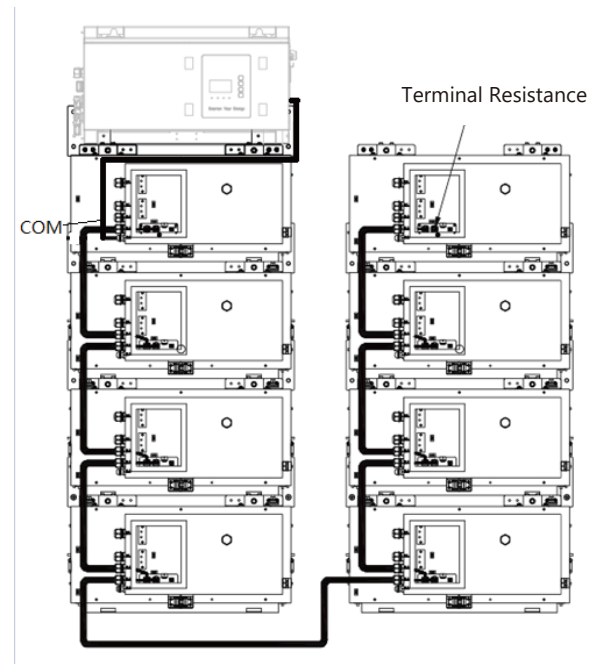

Figure 26 Connection of Communication Cables on Battery Side
**Step 4** Please connect one DC power cable from INV+ port on HV50056 to BAT+ port on SMILE-T10-IN, and another DC power cable from INV- port on HV50056 to BAT- port on SMILE-T10-IN. One side of the AC auxiliary power cables should be connected to the AC auxiliary port on HV50056 and another side should be connected to the distribution box, as shown in Figure 26.